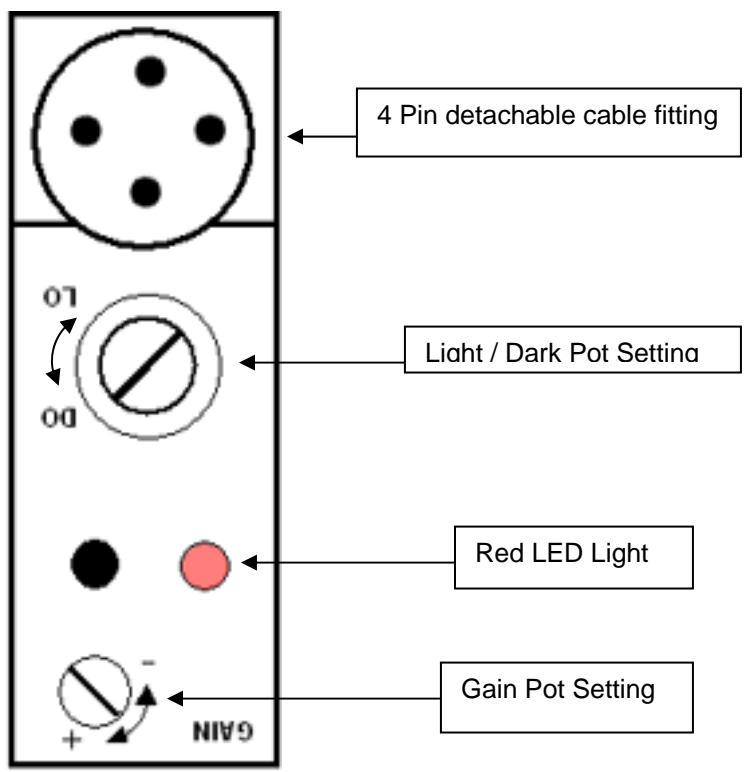

Fig. 1-4
4. Set the “Light / Dark” pot setting; using a small flat blade screw driver, slowly and very carefully turn the pot setting, located next to the electronic cable connection, in a counter clock-wise direction until full range of motion is felt, see figure 1-4.
- a. Using a small flat blade screwdriver, slowly and carefully turn the pot setting located furthest from the electronic cable connection in a counter clock-wise direction until full range of motion is felt, see figure 1-4. The red LED indicator light should be off at this point.
6. Return the plastic cover, removed in step (3) to its original position.